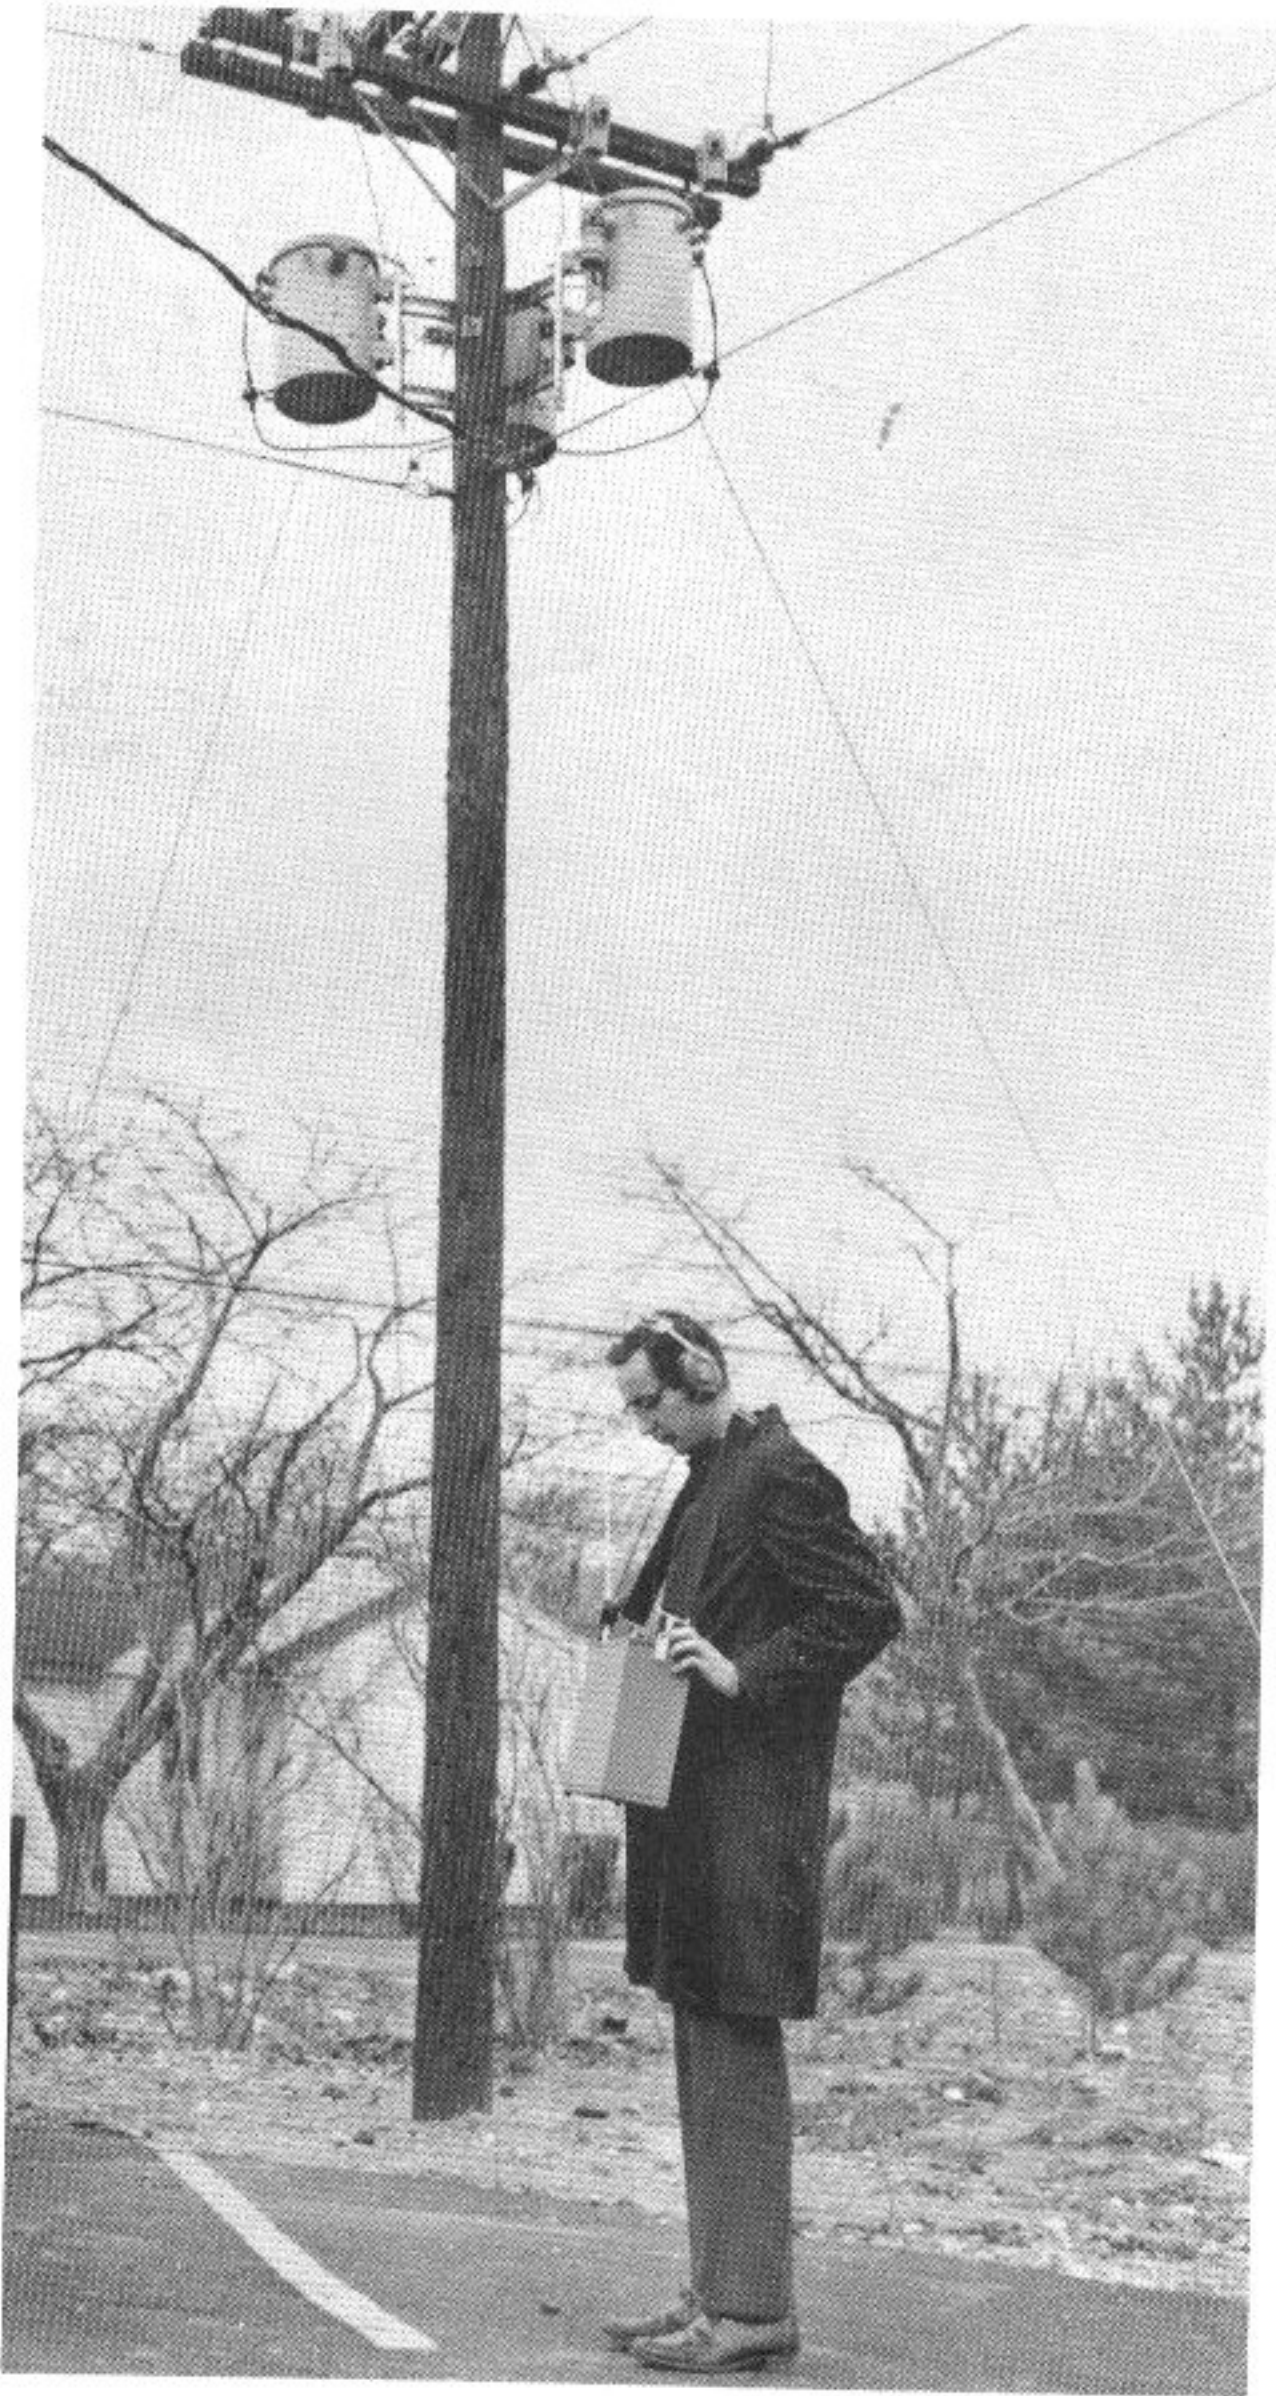

Figure 11
- (1) listen to the audio output from the built-in speaker.
- (2) use the headphones plugged into the 8 OHM PHONES jack.
- (3) observe the deflection of the meter indicator. Use of the meter is preferred because the human ear is sensitive to only relatively large changes in audio level. In cases where rotating the directional antenna produces only a small change in audio output, the meter readings must be relied upon in determining the direction from which the signal is coming.
5.2 Initial Readings. Initial attempts to locate the source of a signal will probably start quite far from the source. A signal from a radio or television station may be considerably stronger than the interfering signal. This will produce a maximum meter reading when the antenna is directed toward the radio or TV station, rather than toward the interference source. Figure 11 illustrates the start of an interference hunt, well away from the homes affected.